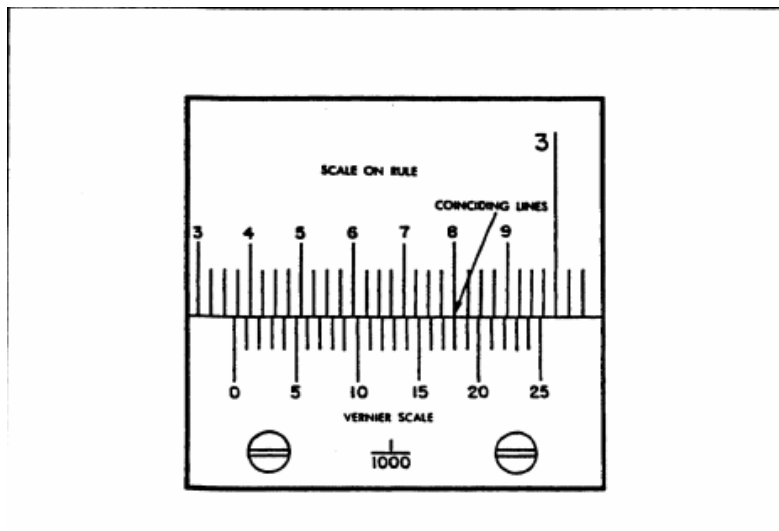
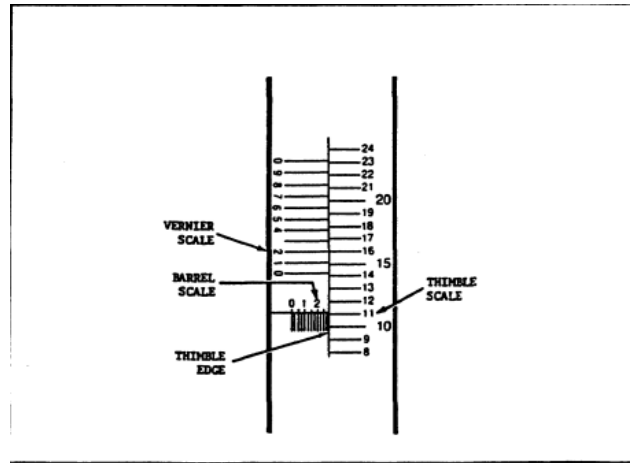
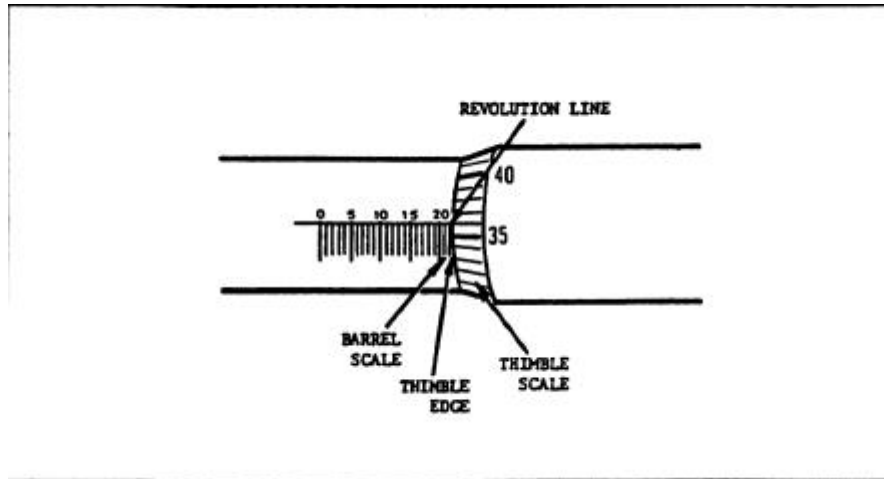
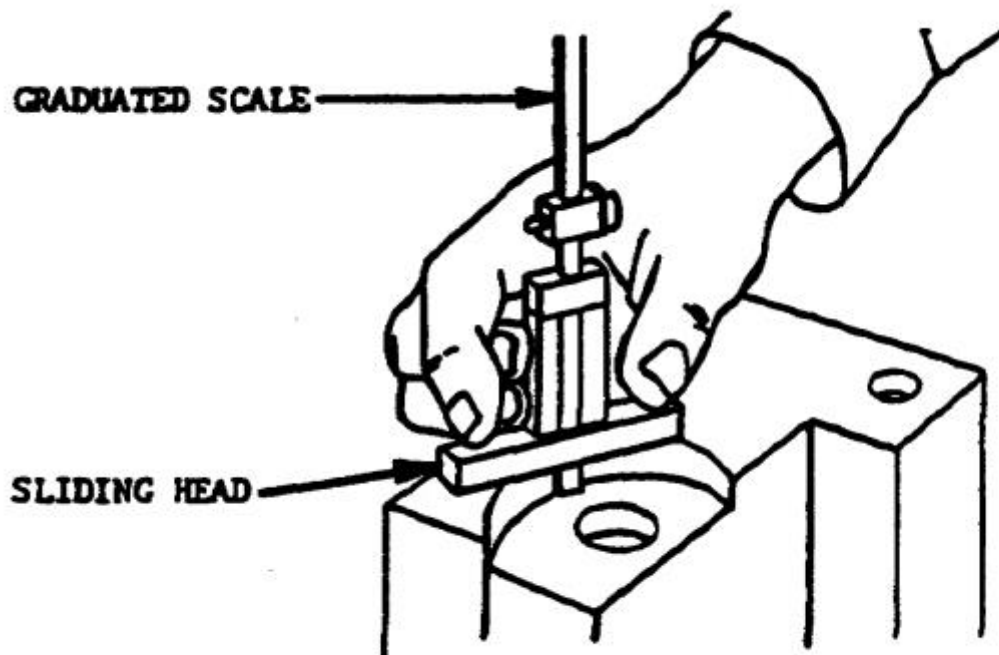

Fig .3
Fig 6
Fig.7
Fig 10
For the last part of the reading, find the line on the vernier scale which exactly coincides with a line on the rule. In the example shown in figure 6, the coinciding vernier line is zero. Therefore, there is no fractional part of a 0.025 inch space to calculate. The exact reading for this sample is 2.350 inches. Reading a Standard Vernier Caliper: Example 2 Now let's look at another sample reading. Figure 7, on the next page, shows a scale
Step 4. To interpret the rest of the reading, find the line on the vernier scale that exactly coincides with a line on the rule scale. In the sample shown in figure 3, the vernier line 18 exactly coincides with a line on the rule scale. This tells you that 18/25 of a whole space must be added to the measurement. Remember that 1/25 of a space equals 0.001 inch. Therefore, 18/25 of a space equals 0.018 inch. Calculate the total reading by adding 2.350 inches and 0.018 inch. The sum is 2.368 inches this is the exact measurement reading shown in figure 3. Reading a Metric Vernier Caliper The standard vernier caliper you just learned to read uses the English measurement scales (inches). Some calipers have a metric scale on the back side. Therefore, you must also know how to interpret readings from a metric vernier caliper. The methods used to interpret a reading from a metric scale on a vernier caliper are nearly the same as those you just learned. The only difference is that you are working in centimeters and millimeters instead of inches. Assume that the scales shown in figure 7 (on the previous page) are metric. You would interpret the reading as follows:
This vernier scale is divided into ten spaces. The ten spaces on the vernier scale take up the same length as nine spaces on the thimble scale. Each unit on the vernier scale equals 0.0009 inch. The size difference between the units on each scale is 0.0001 inch. You read the vernier micrometer the same as you read a standard one. However, you must take one more step. This step adds the vernier reading to the total size. Figure 6, below, shows the relationship of the barrel, thimble, and vernier scales. We will use this figure as a sample. To read the measurement shown in figure 10, Use these steps:
Count the number of lines showing between the number you read (in this case 2) and the thimble edge . The sample in figure 6 has 3 lines showing. Each line stands for 0.025 inch. Therefore, 3 times 0.025 inch equals 0.075 inch. Add 0.075 inch to 0.200 inch. The subtotal is 0.275inch.
Step 3. Find the thimble scale line that lines up with or has passed the revolution line. For the setting in figure 10, the thimble scale line is 11. Each thimble line equals 0.001 inch, so 11 of them equal 0.011 inch. Add this (0.011 inch) to 0.275 inch to get 0.286 inch
So far, the reading is the same as it would have been on a standard micrometer. Now, however, you can use the vernier scale to get even greater accuracy. Find the line on the vernier scale that coincides (exactly lines up with) a line on the thimble. In figure 10, vernier scale line 2 coincides with a thimble scale line. Each line on the vernier scale stands for 0.0001 inch. Therefore, 2 vernier lines equal 0.0002 inch. Add this amount to the subtotal 0.286 inch. The result is 0.2862 inch. This is the exact size measured to the nearest 0.0001 of an inch. Understanding the Scales on a Metric Micrometer The metric micrometer uses the same scale/screw movement principle as the standard micrometer. However, the meaning of the lines on the barrel and thimble scales changes. On a metric micrometer, each full thimble turn moves the screw 0.5 millimeter (mm). The lines on the barrel scale (figure 7, below) read in millimeters, from 0 to 25. It takes two full thimble revolutions to move the screw 1.0mm
The thimble scale has 50 lines. Every fifth line is numbered. As you turn the thimble, each thimble line passes the revolution line on the barrel. A turn equal to one thimble line moves the micrometer screw $\frac{1}{50}$ of 0.5mm, or $\frac{1}{100}$ mm. Two thimble lines equal $\frac{2}{100}$ mm, and so forth. Reading a Metric Micrometer Read a metric micrometer much like you read a standard one. Remember, it takes two full turns for the thimble edge to move one full space (one millimeter) on the barrel scale. To read the metric micrometer shown in figure 7 (on the previous page), use these steps:
Step 1. Read the highest number you can see on the barrel. In figure 7, the number is 20. This equals 20.0mm. Record this number.
Step 3. Find the thimble line that lines up exactly (coincides) with or has passed the revolution line (long line) on the barrel. In figure 7, this line is 36. Because each line on the thimble equals 0.01mm, 36 lines equals 0.36mm. Add this value to 22.0mm to arrive at the total measurement reading of 22.36mm.